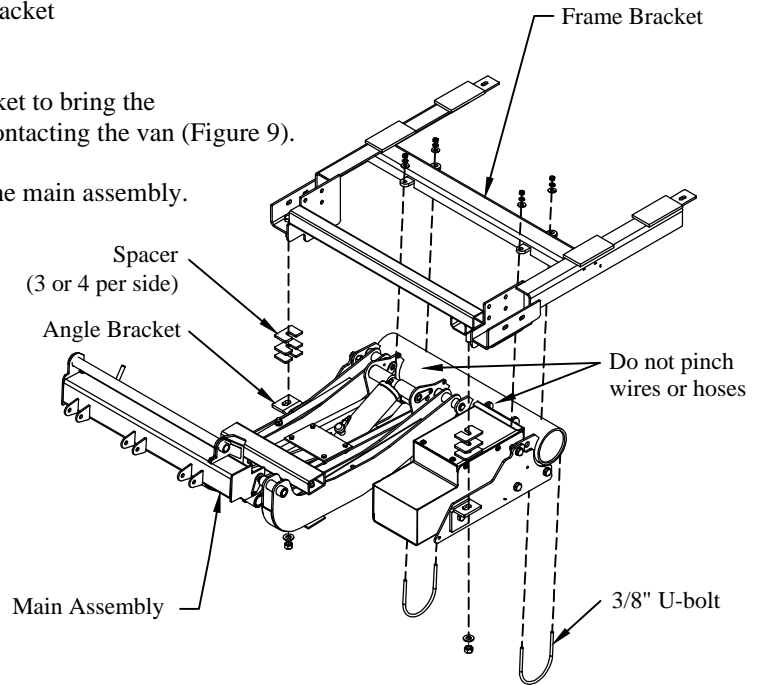

Figure 9: Main assembly position on frame.
4. **Attach** the 3/8" U-bolts to the front channel in the frame bracket with the supplied four (4) flat washers, lock washers and nuts.
5. **Attach** each angle bracket to the 5/8" bolts on the frame bracket with the supplied washers and lock nuts (Figure 9).
6. **Add** spacers between the angle bracket and the frame bracket to bring the rear of the main assembly as high as possible without contacting the van (Figure 9).